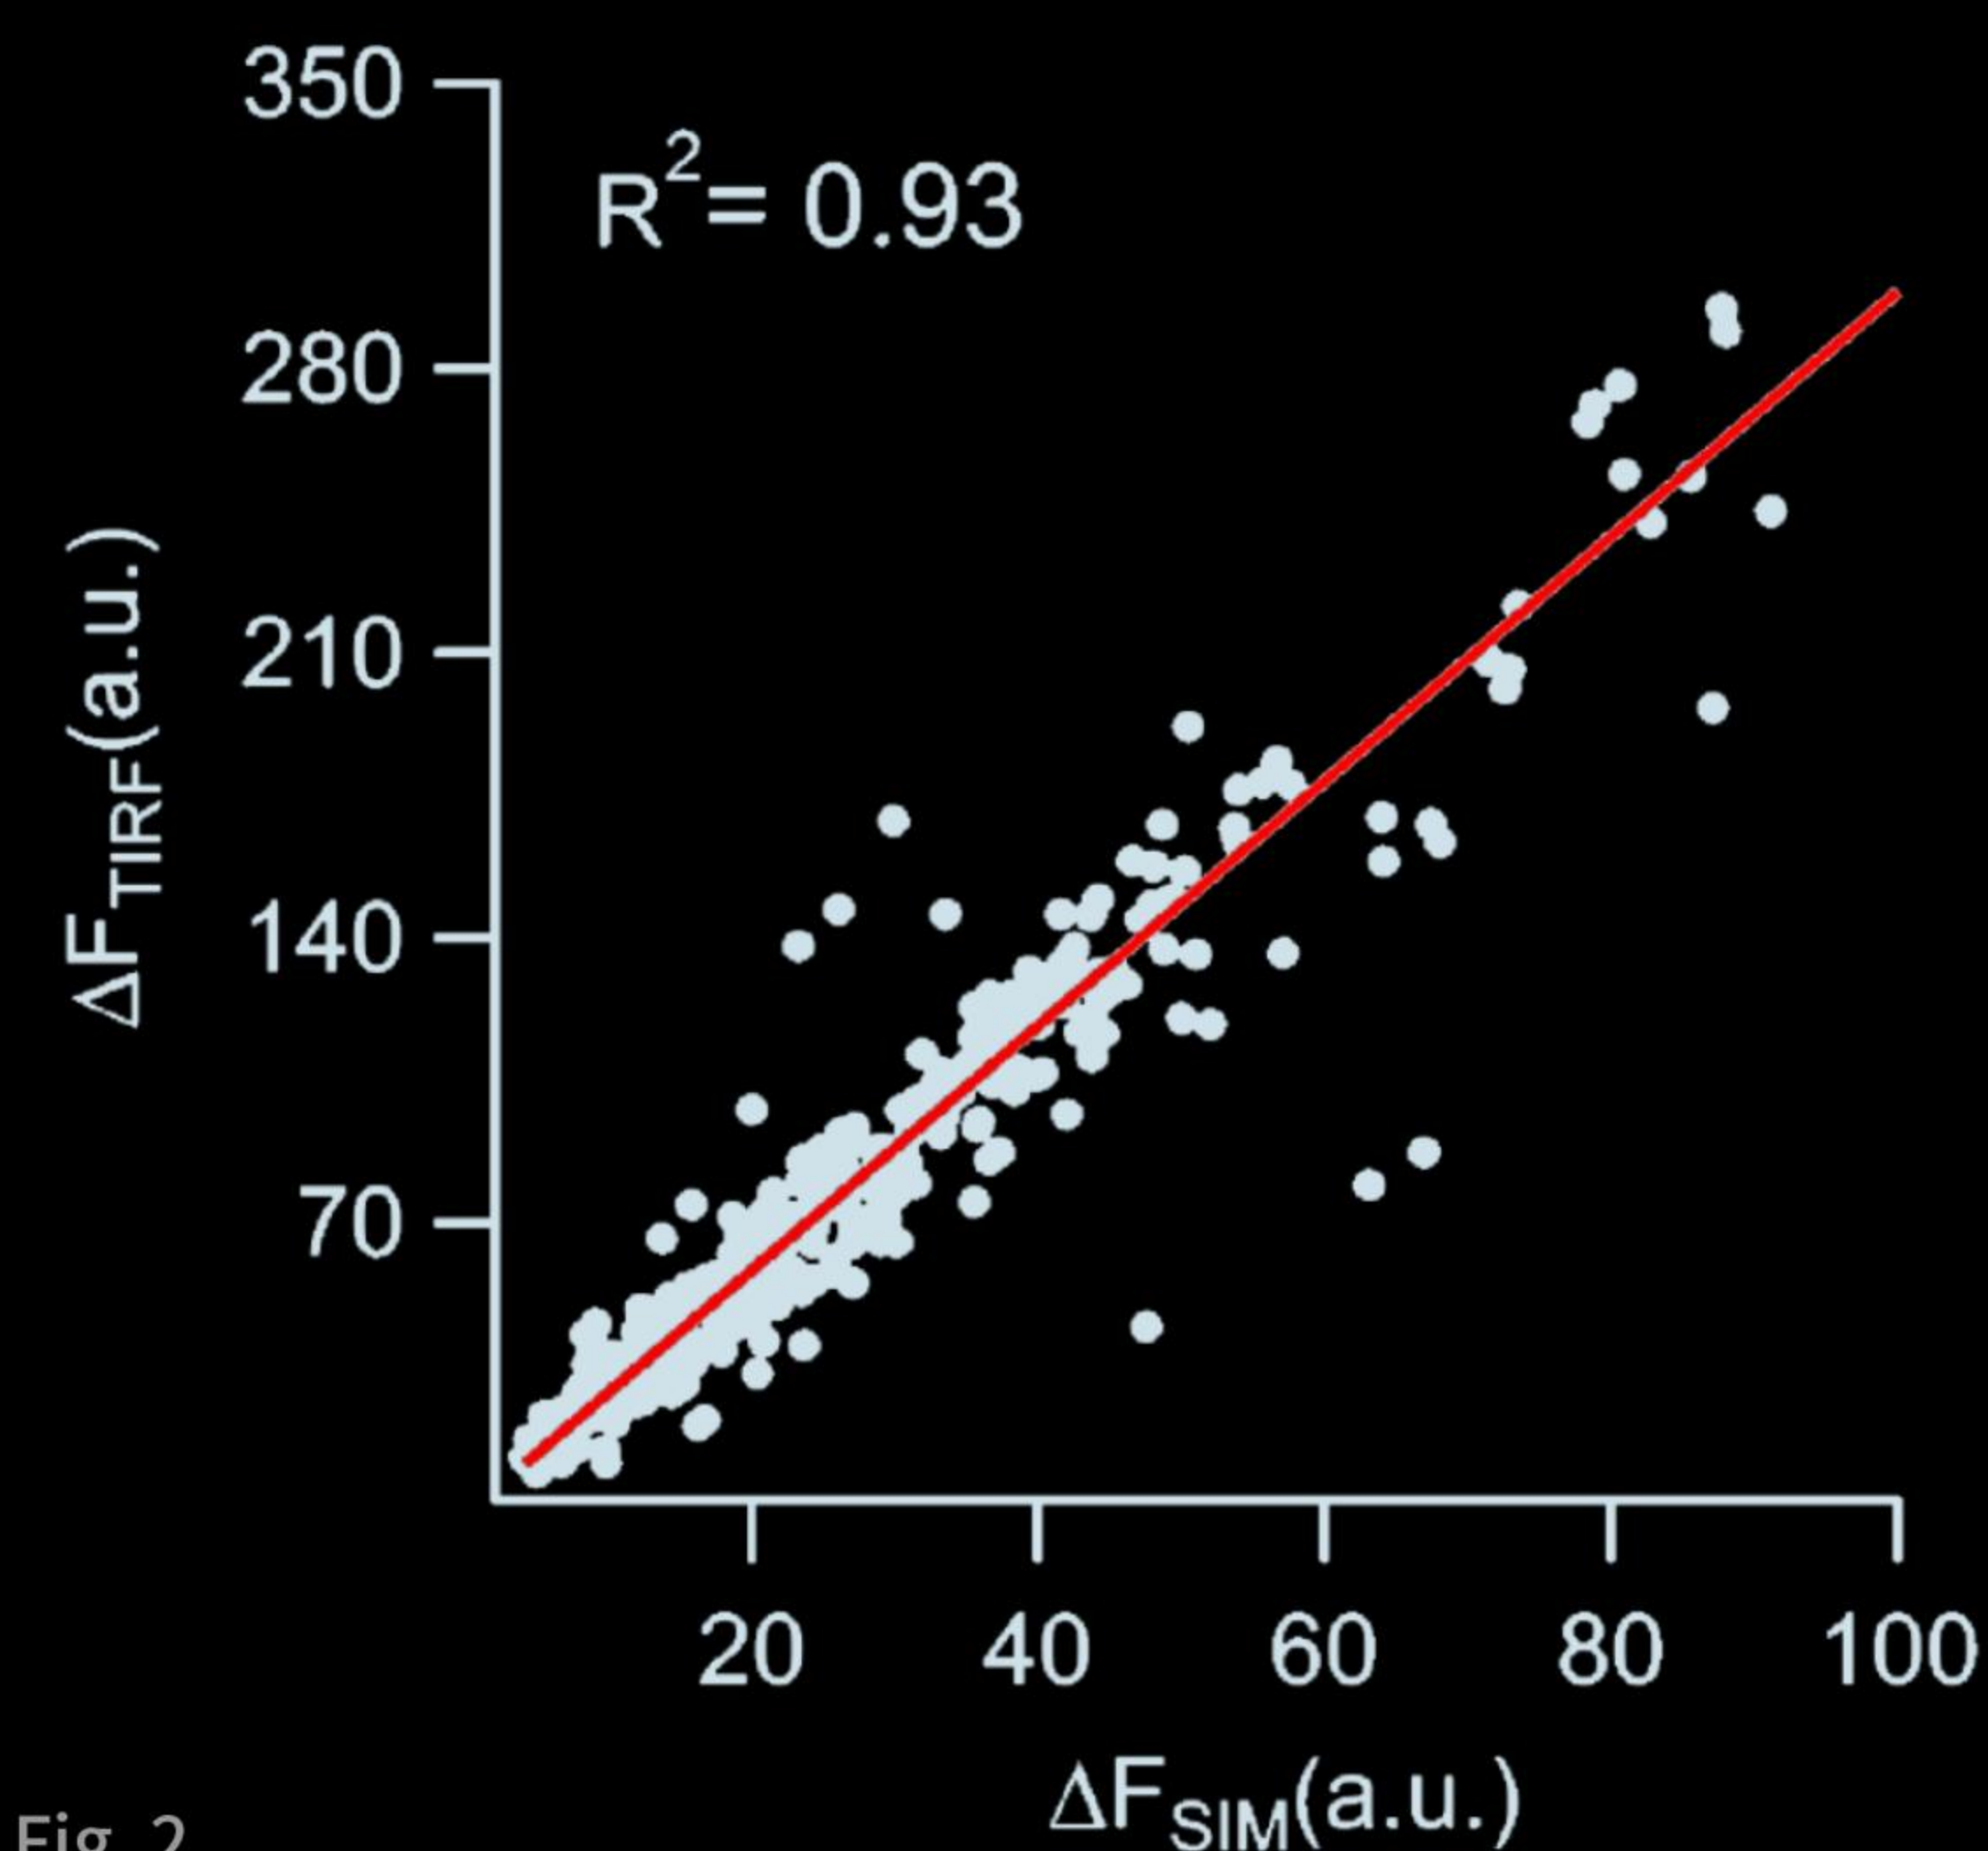

Fig. 2
- Supplementary Evidence (Fig. 2)